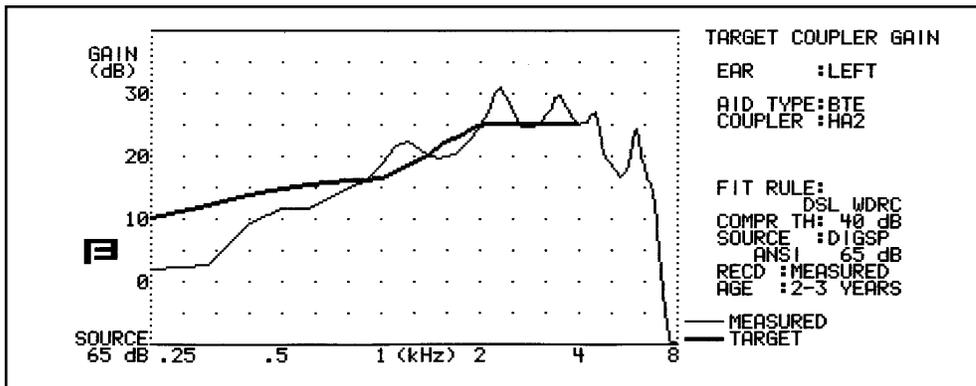

Figure 5.6.2A—Coupler gain measurement with a DSL target
8. Notice the comparison ratios (CR) displayed in the chart to the right of the target graph. (DSL WDRC only) DSL authorities recommend fitting the aid at the average of the calculated ratios. If there are large differences between the recommended ratios below 1500 Hz as compared to those above 1500 Hz, a dual-channel aid would be preferable.
10. Press F6 to adjust the amplitude of the source if you are performing a DSL WDRC fitting. Notice that the target changes as the source level changes. Perform the coupler measurements at several different amplitudes to make sure that the AGC circuits of the hearing aid are compressing properly with the measurement meeting the target at different amplitudes. See Figure 5.6.2A.